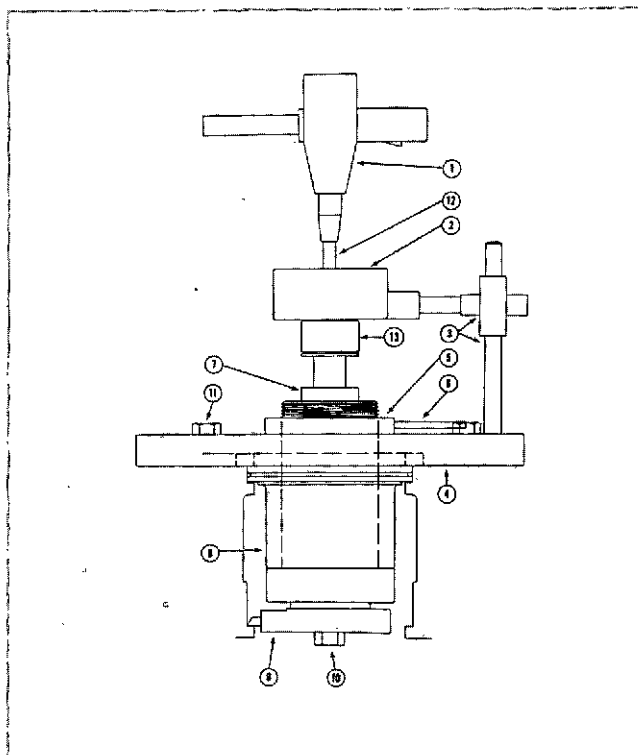

Fig. 1-1-24, V40153. ST-1081 Installed in block
2. Install ST-1084 Bore Adapter (8, Fig. 1-1-24) onto ST-1081 Boring Tool. (Clean all finished surfaces.)
1. Install assembled boring tool into cylinder block, allowing bore adapter (8, Fig. 1-1-24) to engage counterbore and holes in adapter plate to match mating holes on cylinder block.
2. Fasten adapter plate in place with four capscrews and washers (11).
4. Install torque reaction bar (3) into adapter plate.
5. Install gear drive (2) onto boring tool with 1/2 inch square drive engaging boring tool and gear drive anchor arm engaged over the torque reaction bar.
6. Install drive adapter (12) into drill motor (1) and fasten in place.